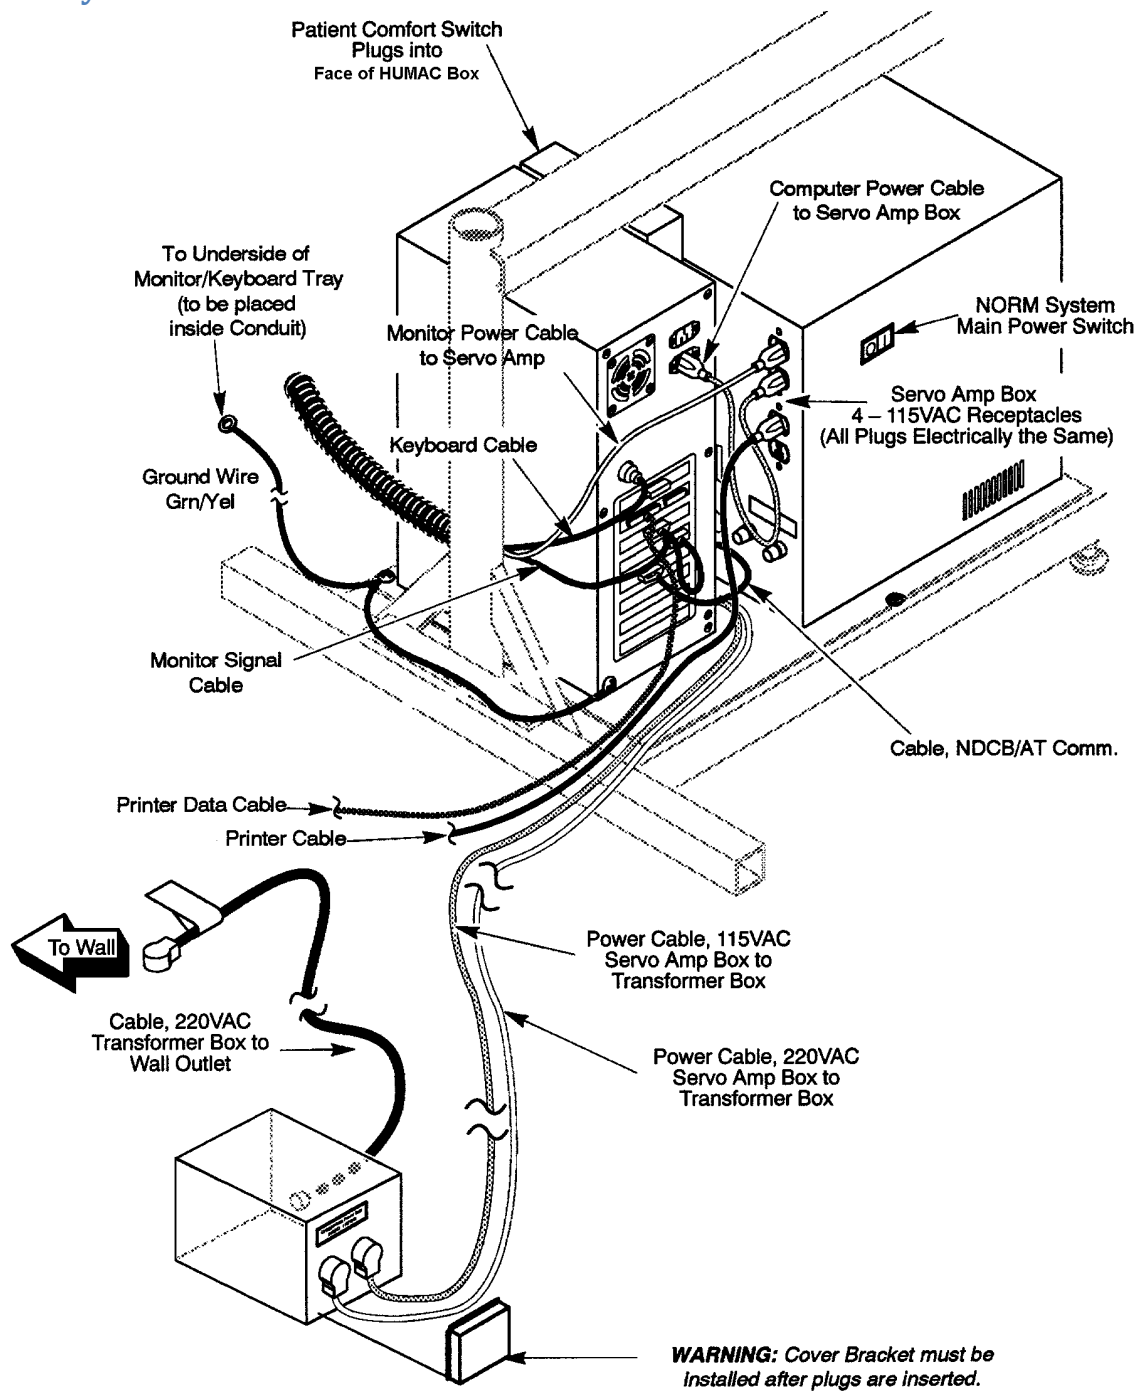

Figure 3-7. Cable Connections.
3. Run keyboard cable over the monitor shelf (hangs off rear of shelf) and connect it to rear of computer. See *Figure 3-6* and *Figure 3-7*.
7. Install the line cord from the transformer into the dedicated 220VAC, 20-Amp wall outlet. (See Figure 3-7.)